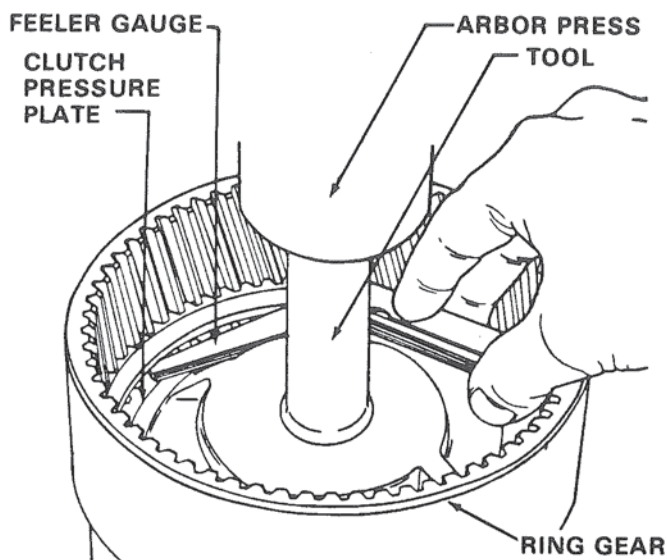

Figure 4. Measuring Gap for Selective Snap Ring.
9. Clutch assemblies having seven (7) friction plates use a selective snap ring which must be selected and installed between the pressure plate and ring gear web. This snap ring is not used in assemblies having only five (5) friction plates. Position clutch and ring gear on a bench with external teeth of ring gear resting on bench. Press down lightly on clutch pack while a feeler gauge is used to determine the clearance between pressure plate and ring gear web. Figure 4. Select a snap ring